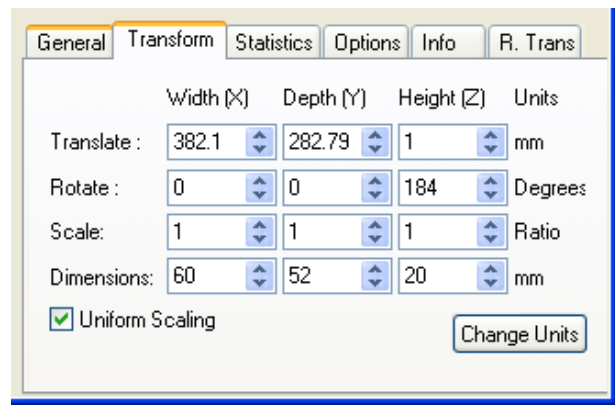
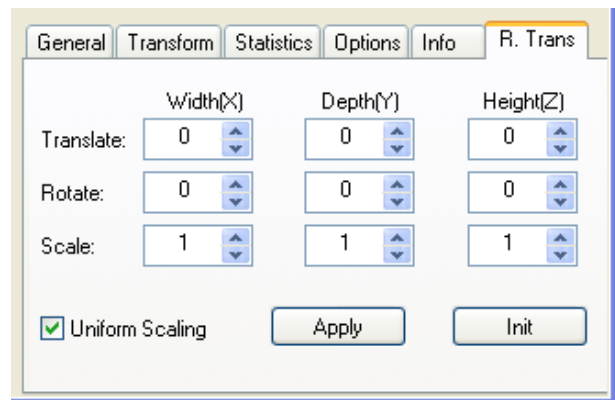

Figure 5-15: Object properties dialog box, *Transform* tab
Figure 5-16: Object properties dialog box, *R. Trans* tab
2. Display the *Transform* tab or the *R. Trans.* tab of the object properties dialog box (see figure 5-15 on page 14 and figure 5-16 on page 14).